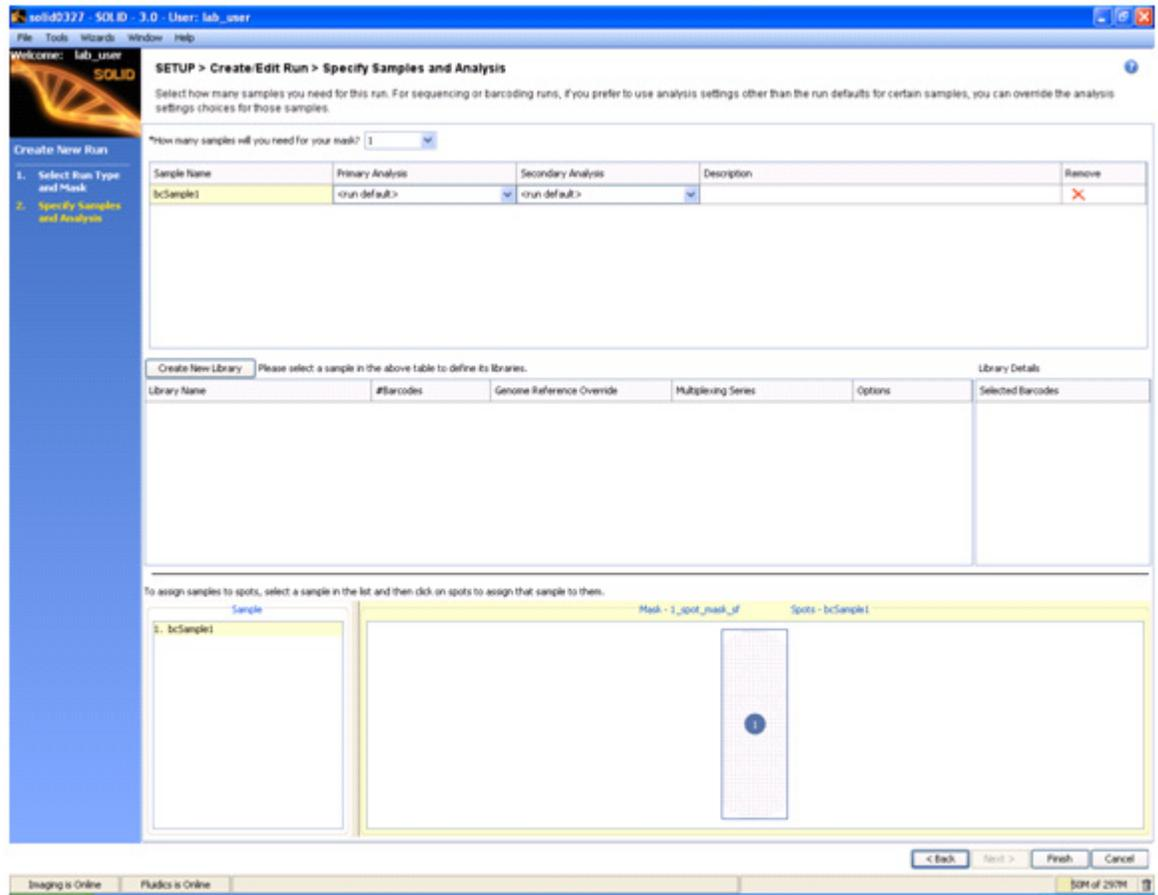

Figure 48 Complete the information in the Specify Samples and Analysis pane.
3. Complete the information in the Specify Samples and Analysis pane (see Figure 48 on page 65):